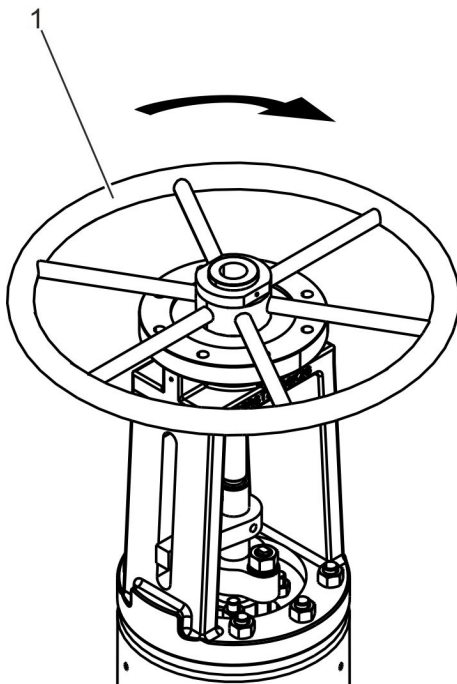

Fig. 19: Closing the valve
2. ▶ Turn the handwheel (Fig. 19/1) clockwise.